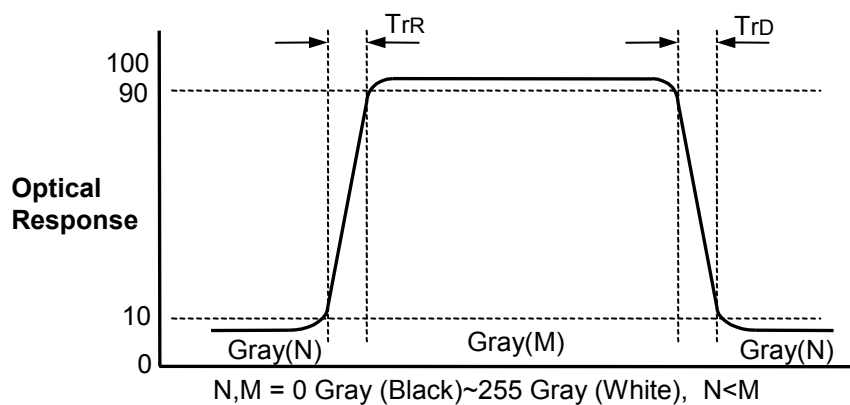

FIG.3 Response Time
4. Response time is the time required for the display to transit from G(N) to G(M) (Rise Time, Tr_R) and from G(M) to G(N) (Decay Time, Tr_D). For additional information see the FIG. 3. ($N < M$)